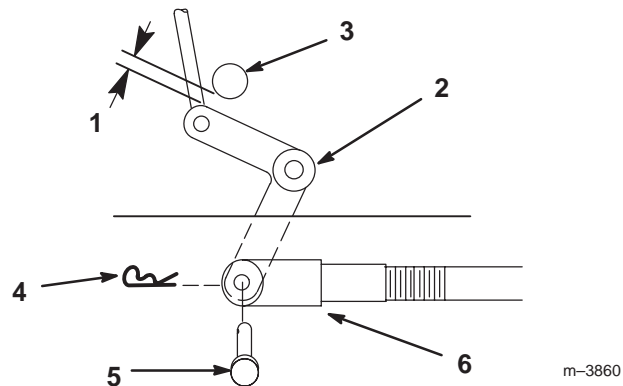
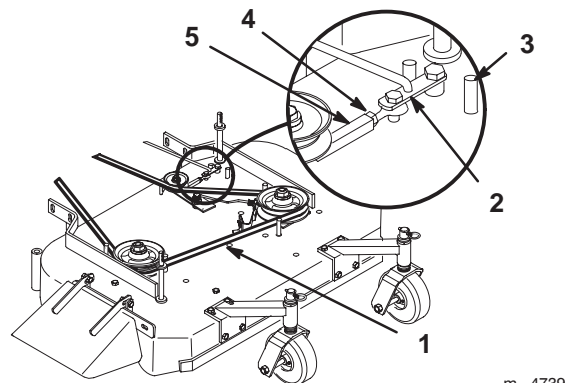

Figure 49
Figure 50
7. Engage PTO lever and check the clearance between the bellcrank and the transmission output shaft (Fig. 49). Space should be 1/16"–1/8" (2–3mm).
8. Remove hairpin cotter and clevis pin from bellcrank. Rotate clevis clockwise on rod to increase or counterclockwise to decrease clearance (Fig. 49).
9. Disengage the PTO. If the assist arm does not contact the front stop on the mower deck (Fig. 50), readjust the clevis to bring the bellcrank closer to the transmission output shaft (Fig. 49).
2. Loosen locknut on turnbuckle (Fig. 50).
3. Rotate turnbuckle toward rear of mower to increase tension on belt. Rotate turnbuckle toward front of mower to decrease tension on belt (Fig. 50).